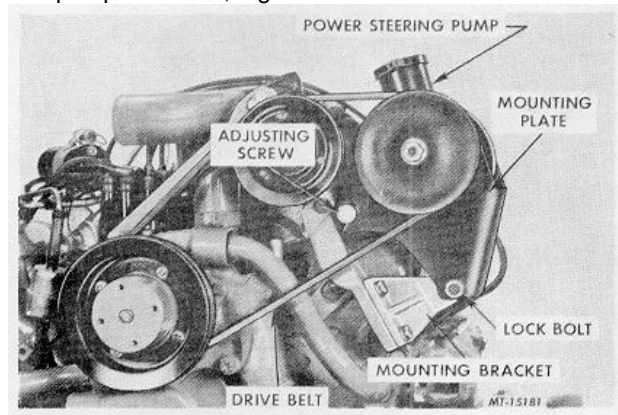

Fig. 13 Removing Power Steering Pump Drive Belt
- Loosen power steering pump belt adjusting screw and pump mounting plate lock bolt. Then remove pump drive belt, Fig. 13.